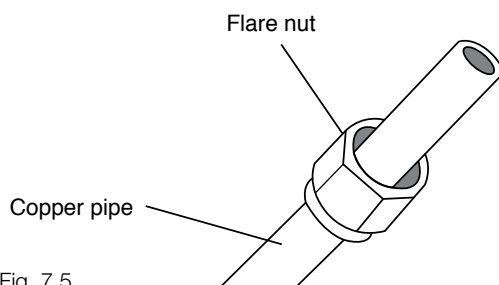

Fig. 7.5
3. Place flare nuts on both ends of pipe. Make sure they are facing in the right direction, because you can't put them on or change their direction after flaring. See Fig. 7.5.